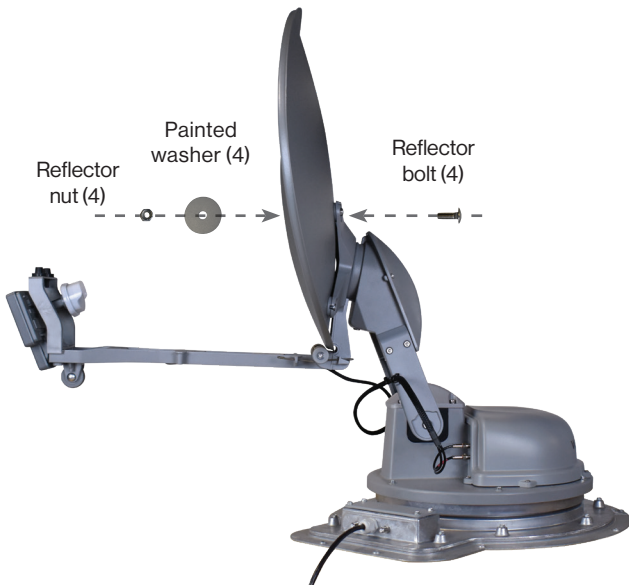

FIGURE 18. Attach reflector with four bolts (back of reflector), washers and nuts (front of reflector)
- Line up the four holes on the reflector with the four holes on the mounting bracket. Insert a reflector bolt through one of the four holes on the back of the reflector. Insert one painted washer and thread a nyloc nut onto each bolt, tighten the nut to secure the reflector to the mounting bracket, make sure to tighten the nut until it is flush with the washer. Overtightening will bend the washer. Repeat process until all four holes are secure. See figures 18 and 19.